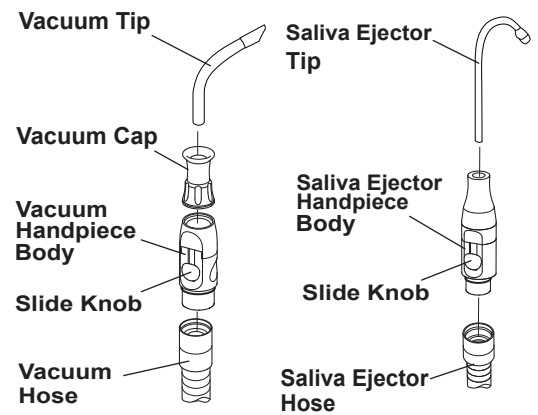

Fig.4-2 H.V.E. and S.E. Hand-piece
1. Vacuum Handpiece and Saliva Ejector (Fig.4-2)